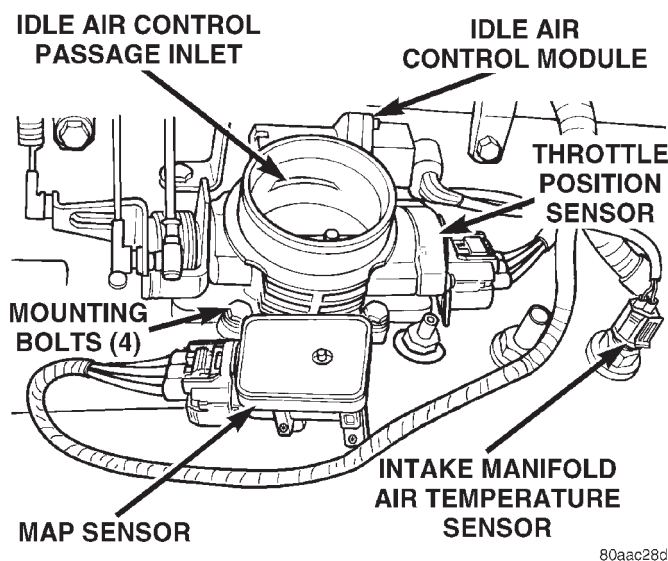
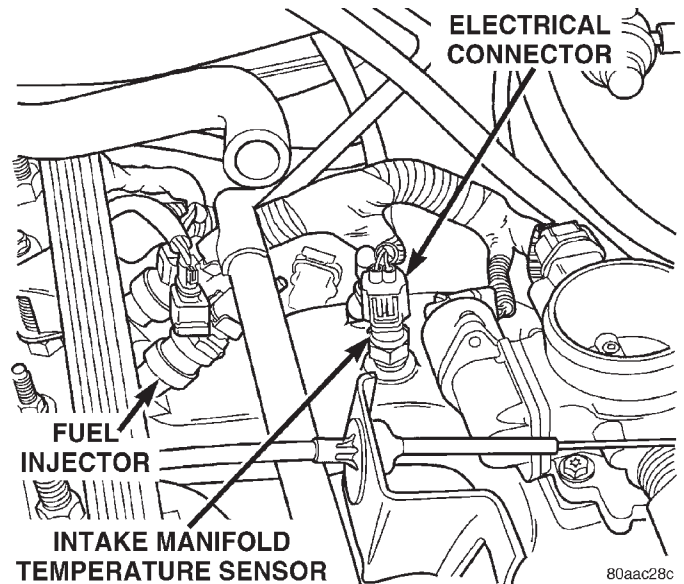

Fig. 34 Intake Manifold Air Temperature Sensor—
Fig. 35 Intake Manifold Air Temperature Sensor—
(1) Disconnect wire harness connector from intake manifold air temperature sensor (Fig. 34) or (Fig. 35).
To perform a complete test of the TPS (Fig. 34) and its circuitry, refer to the DRB scan tool and appropriate Powertrain Diagnostics Procedures manual. To test the TPS only, refer to the following: